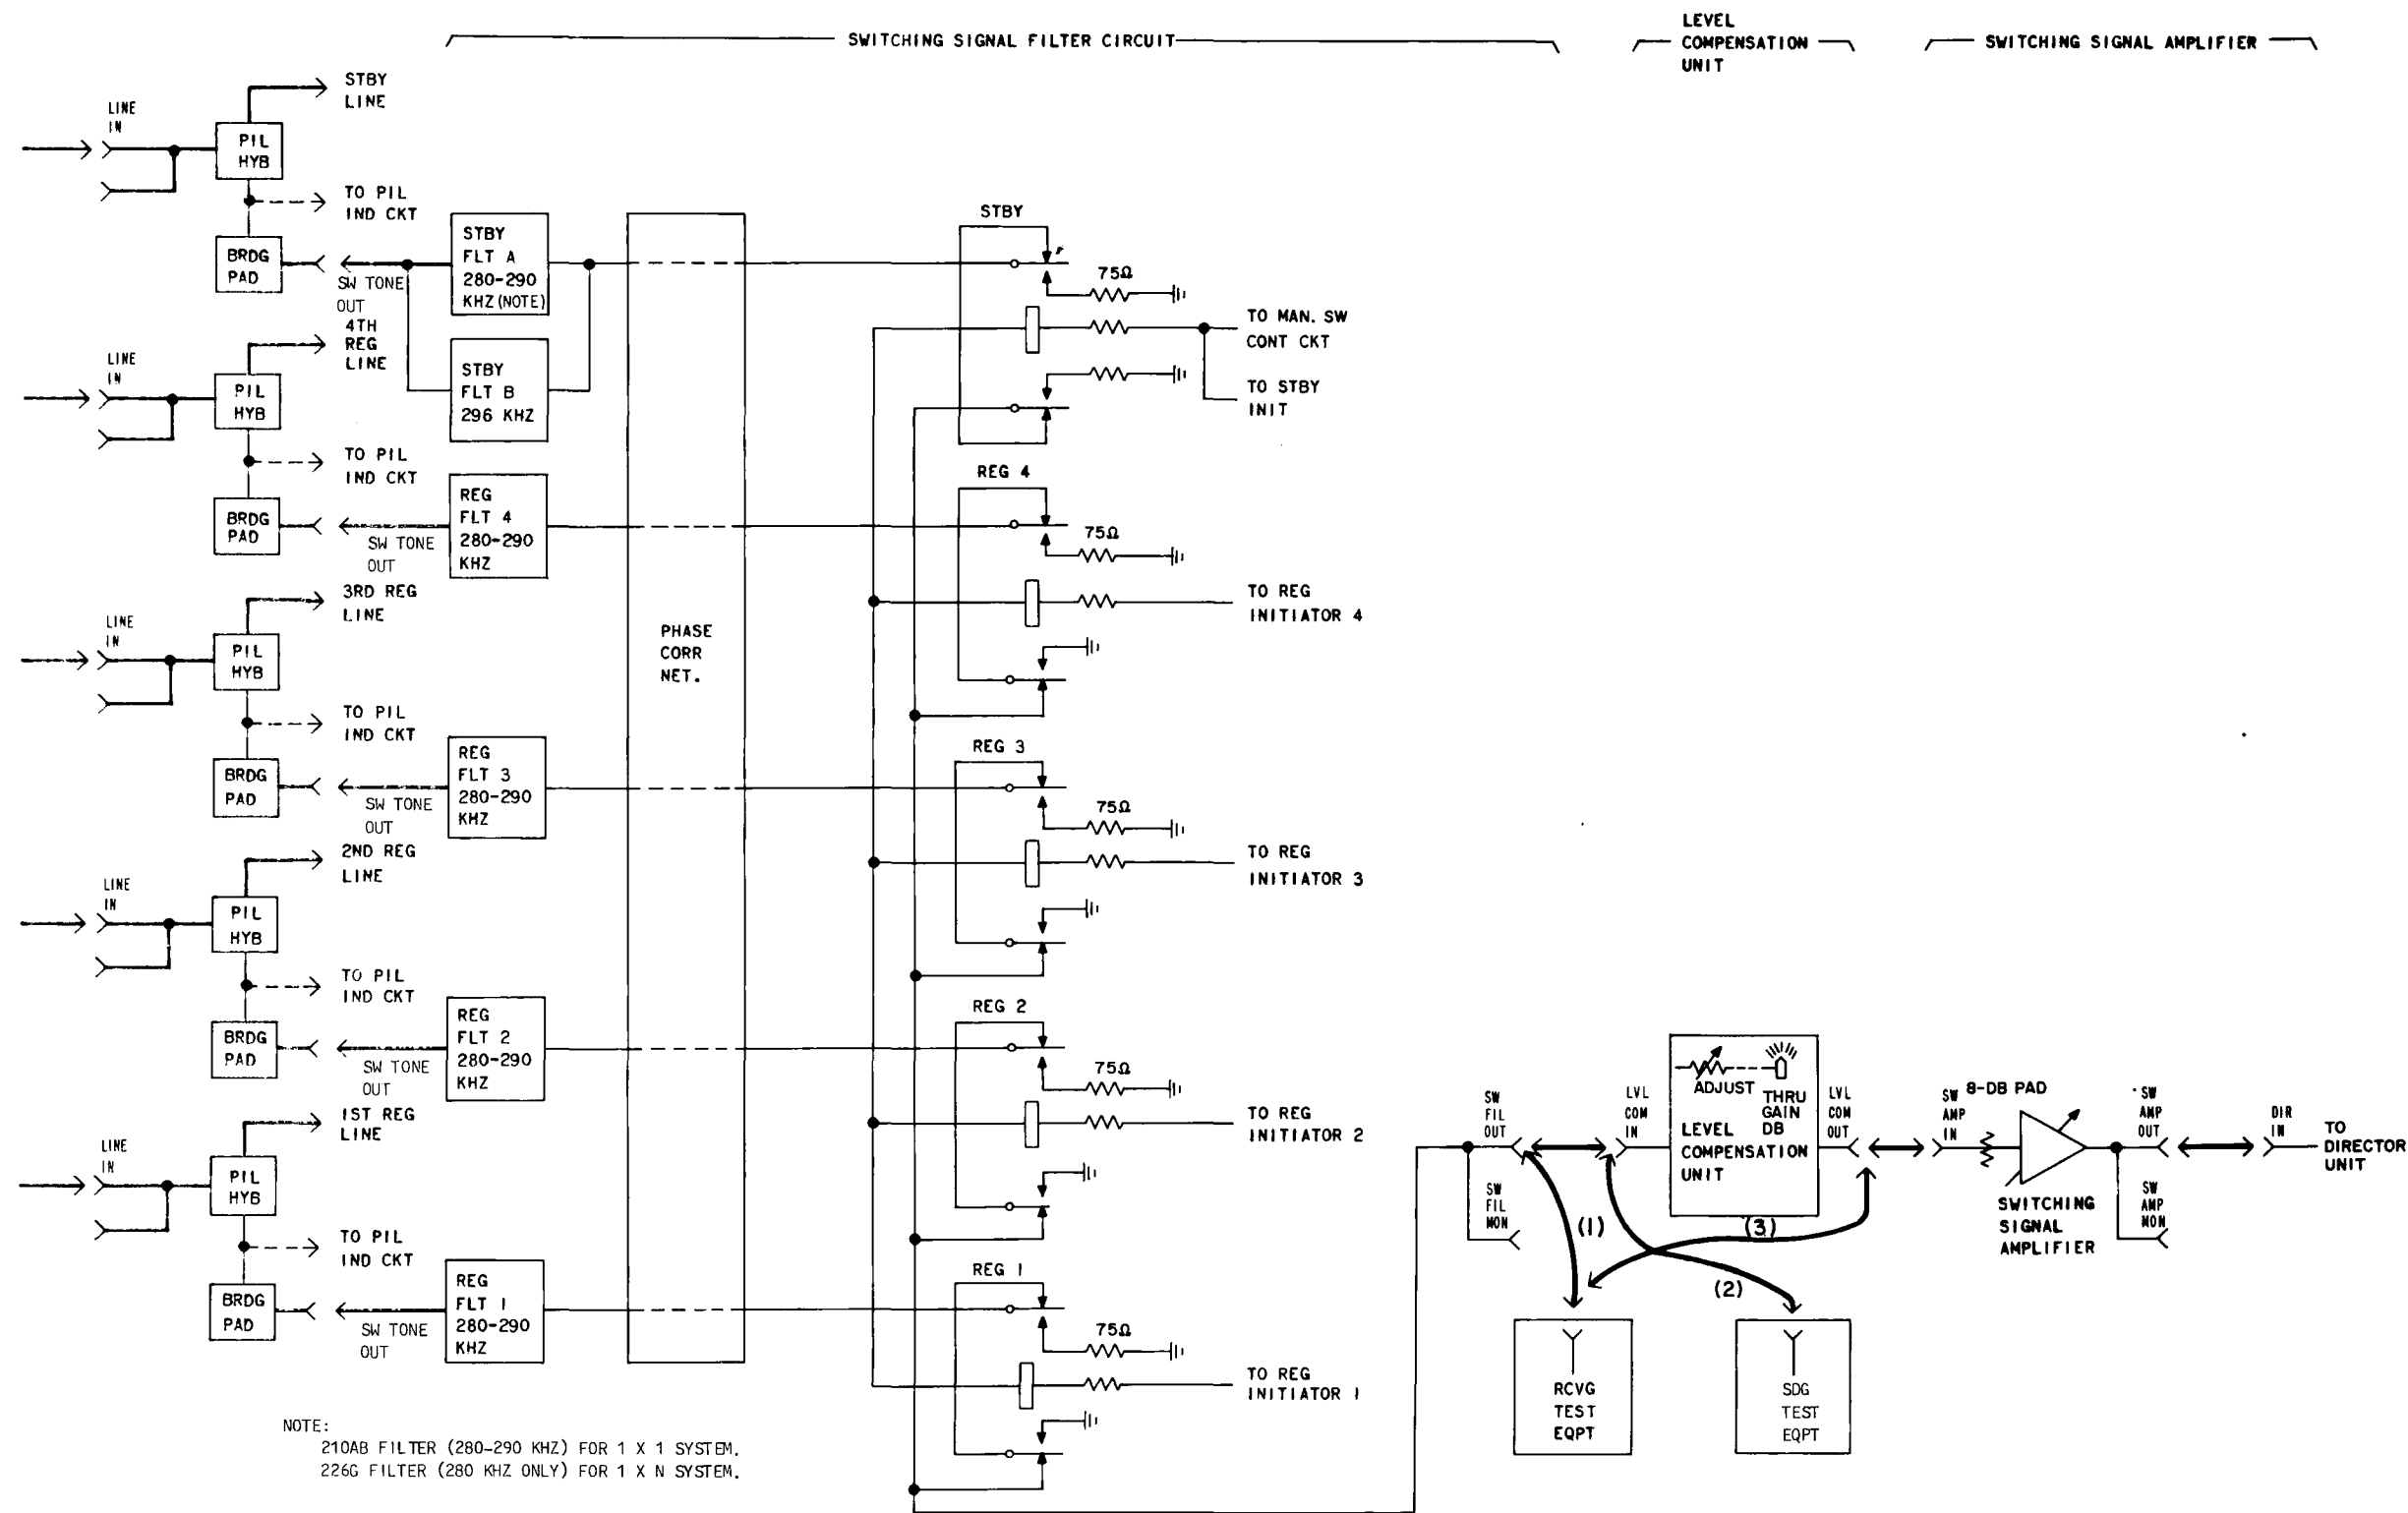

Fig. 4—Input Circuit for Switching Signal Tones
- 9 Insert a patch cord between the SW FIL OUT jack and RTE [patch (1), Fig. 4].
| 28                                                                                   | Disconnect the RTE from the SW FIL OUT jack [patch (1), Fig. 4].                                                                                                                                                        |
| 30                                                                                   | Insert a patch cord between the STE and the LVL COM IN jack [patch (2), Fig. 4].                                                                                                                                        |
| 33                                                                                   | Connect the RTE to the LVL COM OUT jack [patch (3), Fig. 4].                                                                                                                                                            |
| 36                                                                                   | Disconnect the STE from the LVL COM IN jack [patch (2), Fig. 4] and replace the patch plug between SW FIL OUT and LVL COM IN jacks.                                                                                     |
| 49   | Disconnect the RTE from the LVL COM OUT jack [patch (3), Fig. 4].                                                                                                                                                                                   |